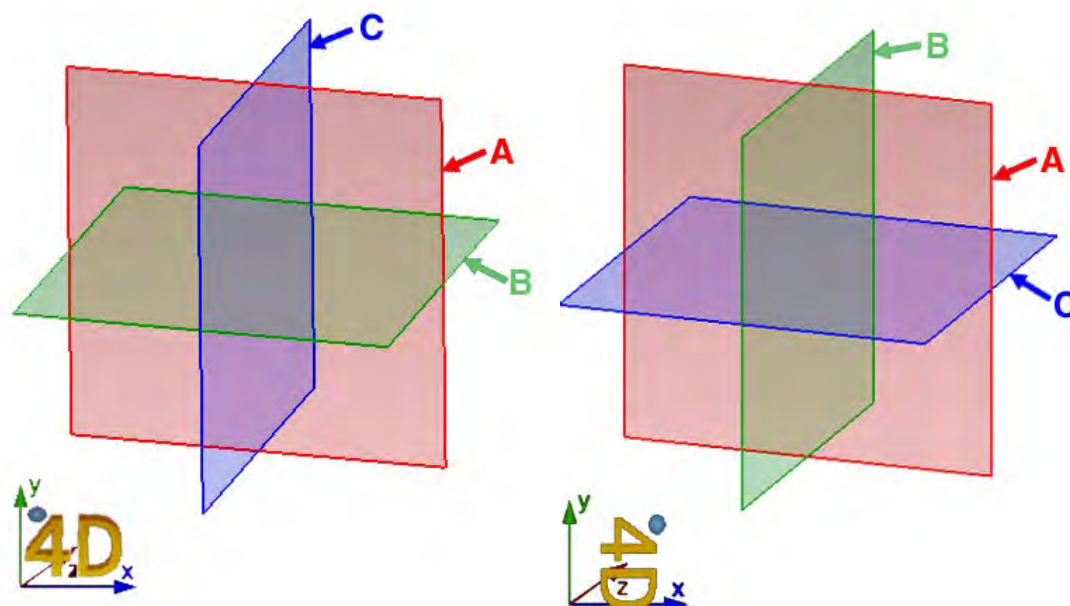
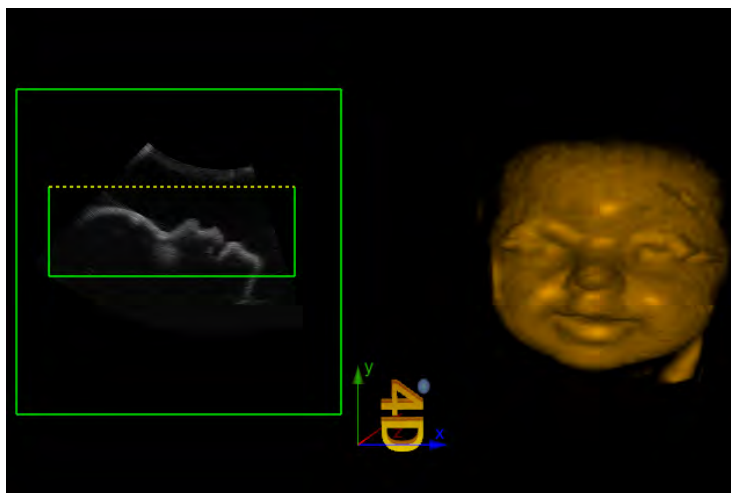

Figure 197: Diagram of the planes
Figure 198: Lite imaging interface
Section box: ROI for Plane B in ultrasound image 4D Lite rendering. See Figure 197.
*NOTE: If the examination area on the image is scanned, please ensure that the imaging area is within the range (see Figure 197). There are four corners on both sides of the horizontal line and the far side of the sector. The rectangular area enclosed by the four corners is the layer box area of the volume image. See the layer box of the foetus' head on the right-hand side of Figure 198.*
- (1) If the rotation is  $0^\circ$  or  $180^\circ$ , the A/B/C planes are displayed, as shown in Figure 197 on the left.
- (2) If the rotation is  $90^\circ$  or  $270^\circ$ , the A/B/C planes are displayed, as shown in Figure 197 on the right.
4D-Lite imaging interface as shown in Figure 198.